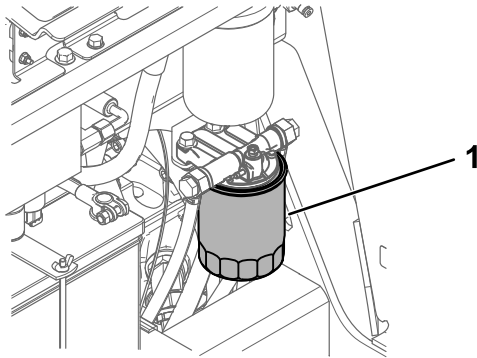

Figure 57
5. Place a clean container under the fuel filter canister (Figure 57).